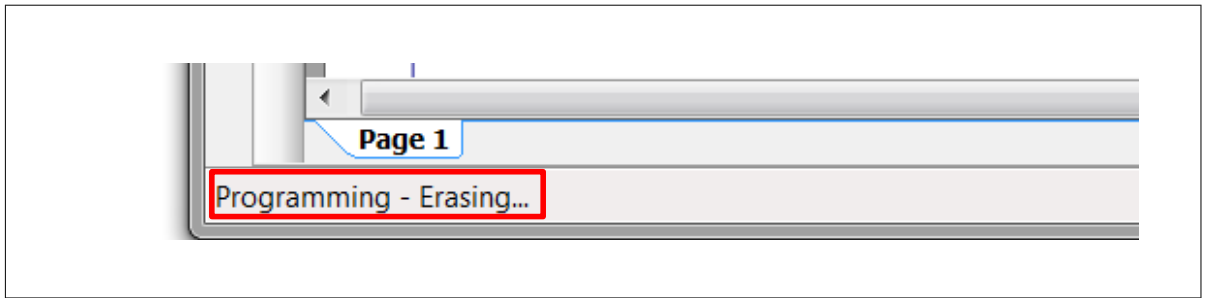

Figure 51 **Programming status**
- You can view the programming status on the status bar (lower-left corner of the window), as shown in Figure 51.